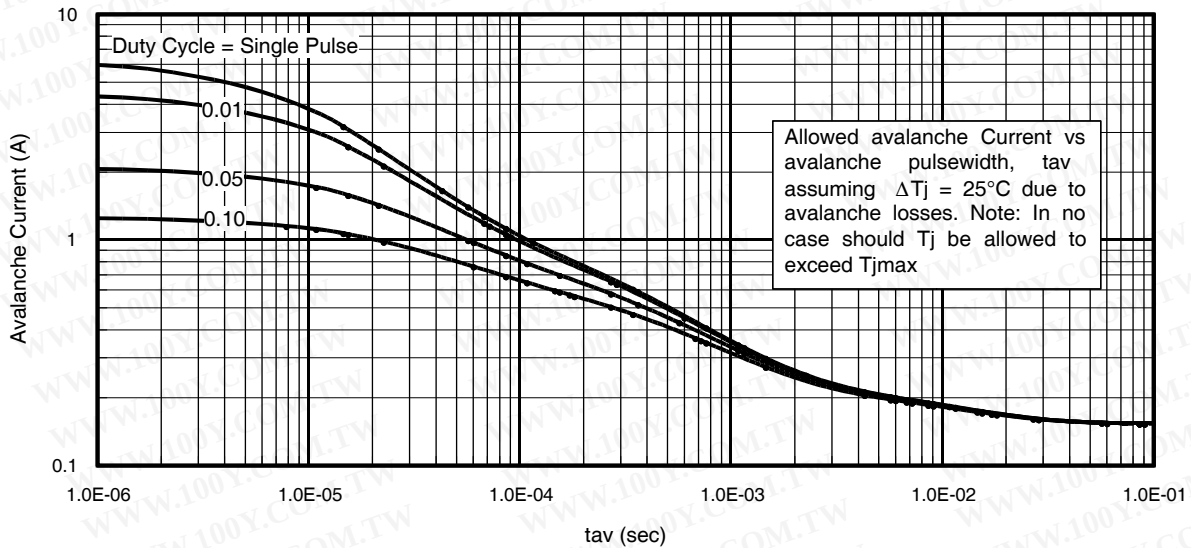

Fig 14. Typical Avalanche Current Vs. Pulsewidth
- ① Repetitive rating; pulse width limited by max. junction temperature. ④ R_{θ} is measured at T_J of approximately 90°C .
② Starting $T_J = 25^\circ\text{C}$, $L = 0.32mH$, $R_G = 25\Omega$, $I_{AS} = 13A$. ⑤ Limited by T_{jmax} . See Figs. 14, 15, 17a, 17b for repetitive avalanche information
③ Pulse width $\leq 400\mu s$; duty cycle $\leq 2\%$.
Notes on Repetitive Avalanche Curves , Figures 14, 15:
7. ΔT = Allowable rise in junction temperature, not to exceed T_{Jmax} (assumed as 25°C in Figure 14, 15).